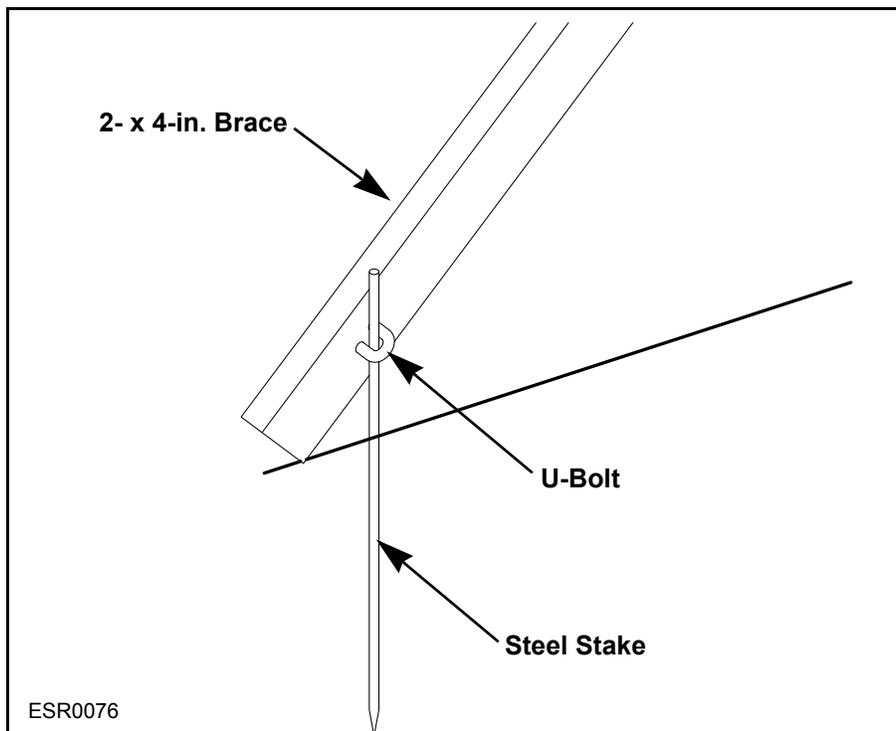

Figure 4-4: Optional Steel Stake
- The stakes must be 2- x 4-inches and set in the ground a minimum of 24 inches. If ground conditions prohibit driving a wood stake, it is acceptable to substitute a 0.75-inch round steel stake set in the ground to the same depth. See **Figure 4-4** for a steel stake and U-bolt.
- The stakes must be 2- x 4-inches and set in the ground a minimum of 36 inches. If ground conditions prohibit driving a wood stake, it is acceptable to substitute a 0.75-inch round steel stake set in the ground to the same depth. See **Figure 4-4** for a steel stake and U-bolt.